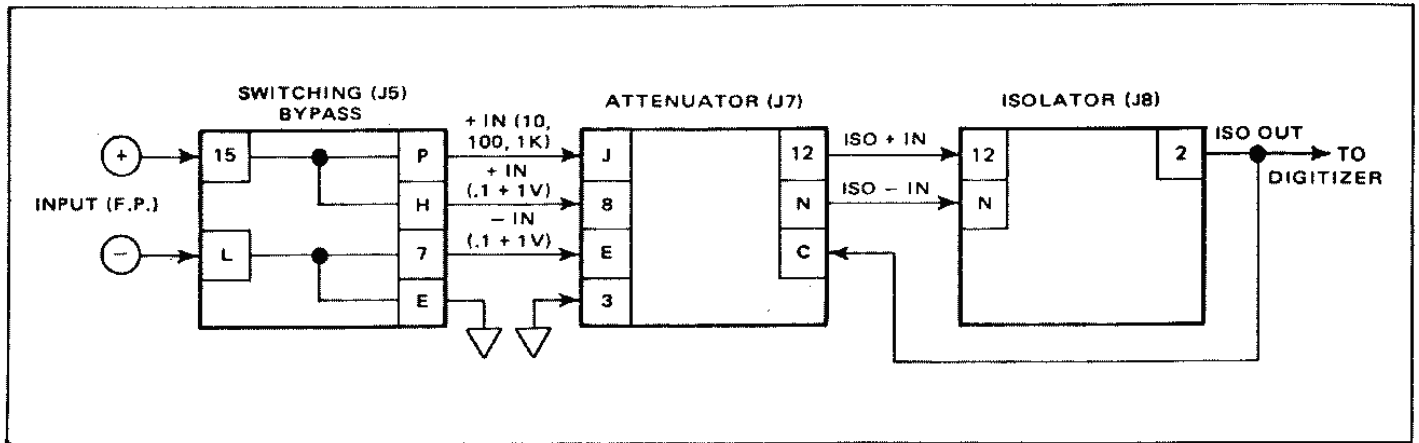

Figure 4.11 - Signal Flow, Switching Bypass
4.34 The Switching Bypass board is a printed circuit jumper board and occupies connector J5. The Bypass board replaces the Switching board when the Ohms and AC converter options are not used in the DVM. The signals are routed through the Bypass board in exactly the same manner as in the Switching board when the dc function is selected. A block diagram of the Signal Conditioning section with the Bypass board installed is shown in figure 4.11.